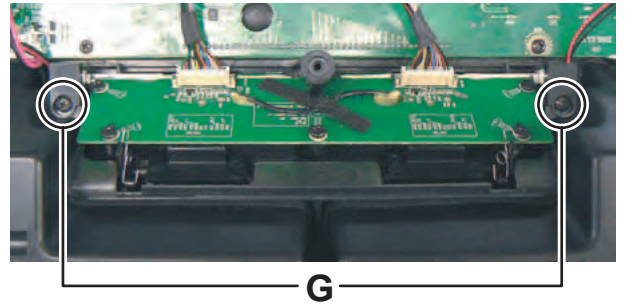

Fig.8
3.1.6 Removing the LED boards (See Fig.8)